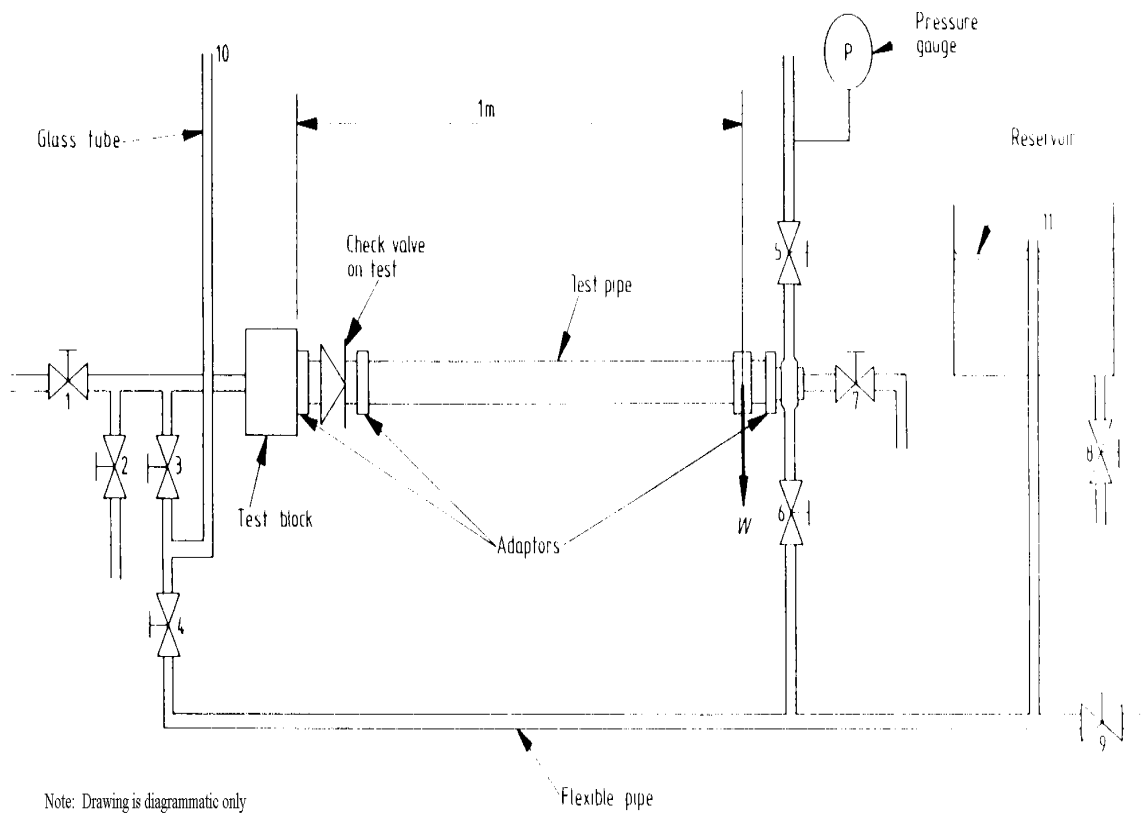

Figure 06
The example of the test equipment shown in the Figure 06 is for guidance only.
- (1) Mount the device in the test system in its normal working position. (Reference Figure 06).
- (2) Close all valves.
- (3) Open valves '3', '4', '6' and '7'.
- (4) Open valve '1' and fill the system, exhausting air through valve '7' and tubes '10' and '11'.
- (5) Close valve '7' when bubble-free water emerges from tube '11'.
- (6) Close valve '1' slowly and create a convex meniscus at the top of tube '11'.
- (8) Apply a load W, relative to valve size, as shown in Figure 06 to produce the bending moment given in Table 06. In calculating the bending moment, make due allowance for the mass of the pipework, valves and any loads imposed by the test equipment.
- (9) Close valve '6'.
- (10) Open valve '5' and apply a pressure of 16 bar, the pressure to be gradually built up over a period not exceeding 1 minute.
- (11) Maintain this pressure for 10 minutes and then reduce gradually to a pressure of 0.2 bar. Observe the level of water in glass tube '10' whilst carrying out these operations.
- (12) Reduce the pressure to zero.
- (13) Remove the load W.
- (14) Repeat procedures (2) to (7).
- (15) Open valve '2' slowly and allow the level in glass tube '10' to fall 30 mm below that of meniscus in tube '11'. Close valve '2' and observe meniscus at the top of tube '11'.
- (16) Apply a load W, relative to the valve size, as shown in Figure 06.
- (17) Hold the load W for 5 minutes.